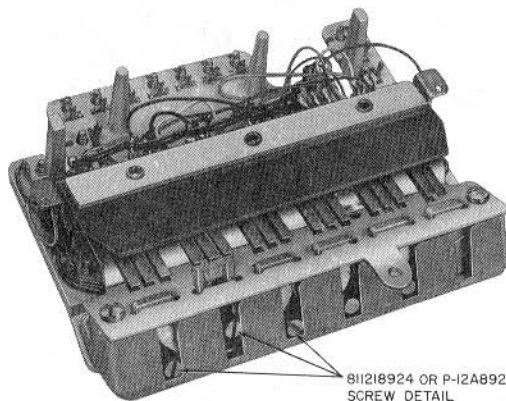
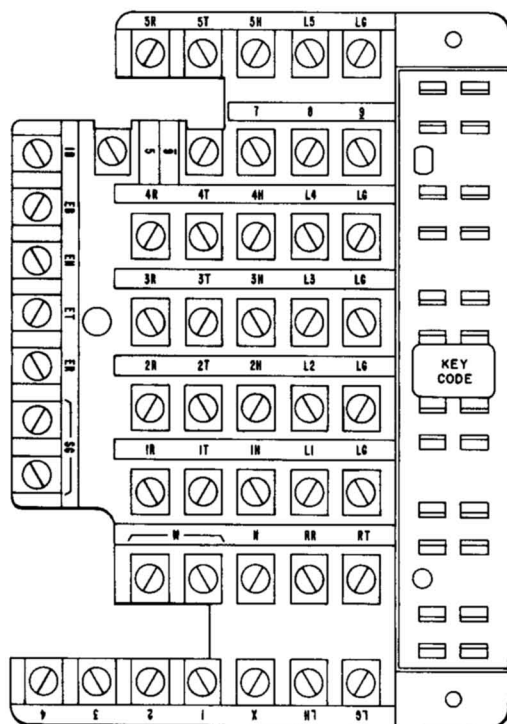

Fig. 1—636A Key, Bottom View
Fig. 2—Terminal Board for the 636A and 589Y Key
2.01 The 636-type key (Fig. 1) has a terminal board arrangement to accommodate matching cord terminal wafers, so that any line connected to the set can be interchanged readily to appear on any five line pickup keys. See Fig. 2 and 3 for terminal designations on the 636A and 636B, respectively.
2.03 Certain pickup buttons on 4- and 6-button sets are arranged for conversion to signaling. To convert, remove 811218924 (P-12A892) screw detail (Fig. 1) and make necessary wiring changes. Table A shows key and associated telephone sets with convertible buttons.